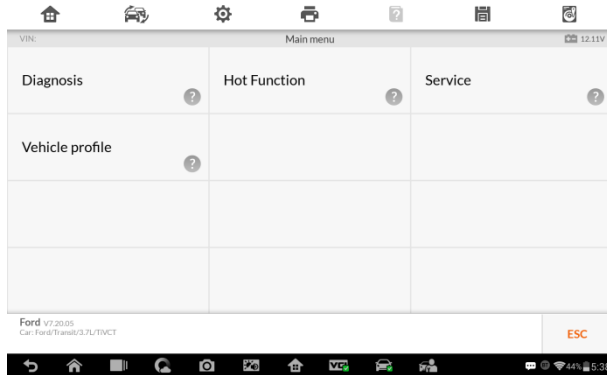

Figure 4-3 Sample Vehicle Diagnostics Screen
6. Tap **Done**. The vehicle will be identified in a few seconds, and once the matching is successful, the system will guide you to the Vehicle Diagnostics screen directly (Figure 4-3).